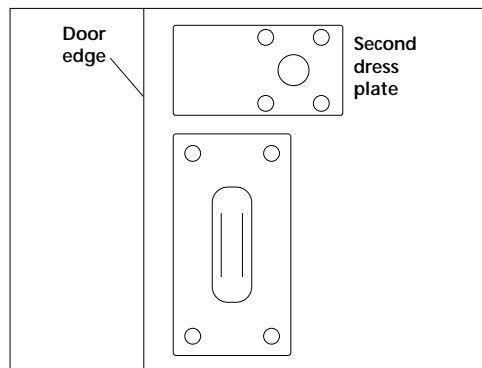

Figure 5
- 4) Mount the battery cup frame on the inside of the door onto the dress plate and secure it with the four #8 screws. For exit device with surface mounted rods, a second dress plate has to be used under the battery cup frame in order to shift the batteries off the center (see figure 5).